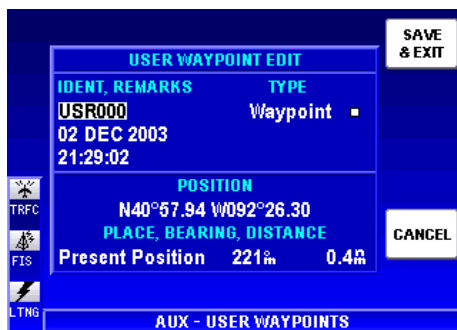

Figure 1-69
3. Press the **NEW WPT** Softkey to display the **USER WAYPOINT EDIT** display as shown in Figure 1-69.